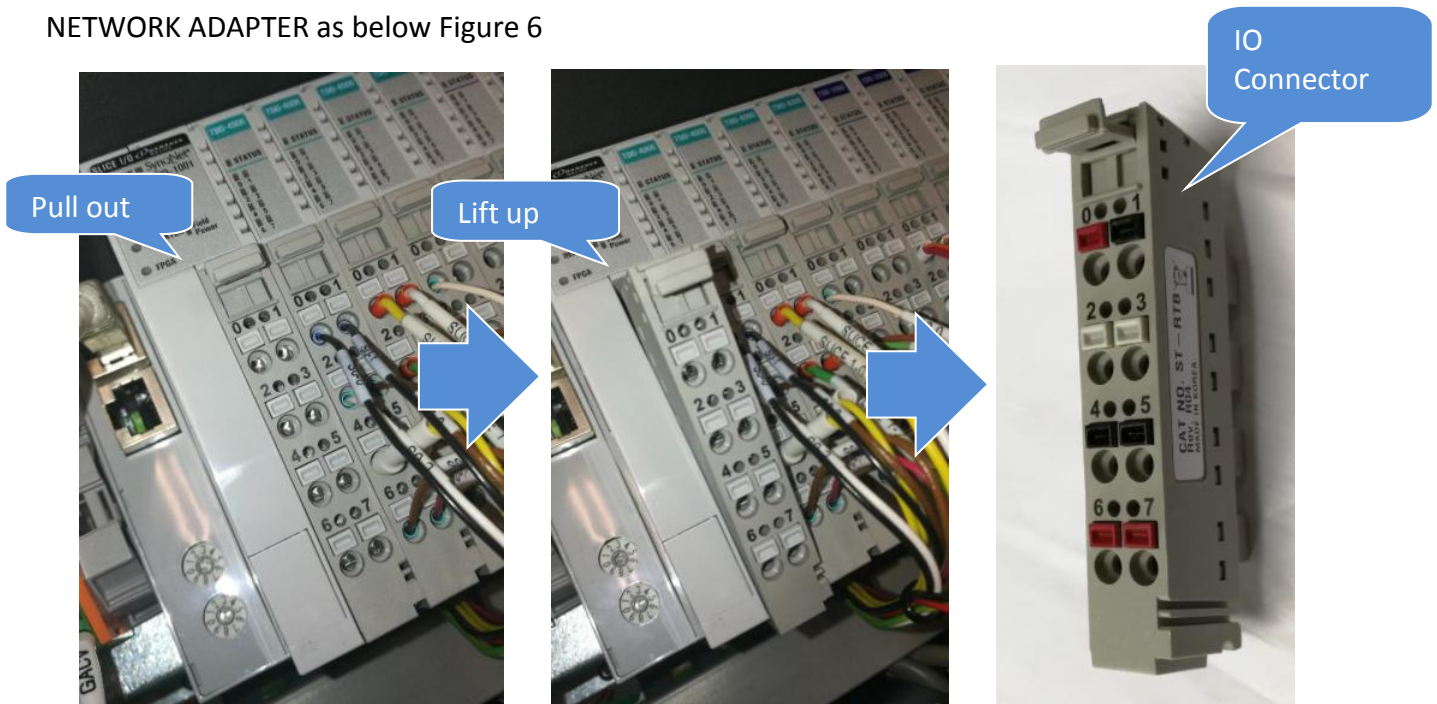

Figure 6 Slice IO Connector (SYNQNET NETWORK ADAPTER)
- Gently Pull out IO Connector Hinge. Lift up and remove the IO Connector from Slice IO SYNQNET NETWORK ADAPTER as below Figure 6